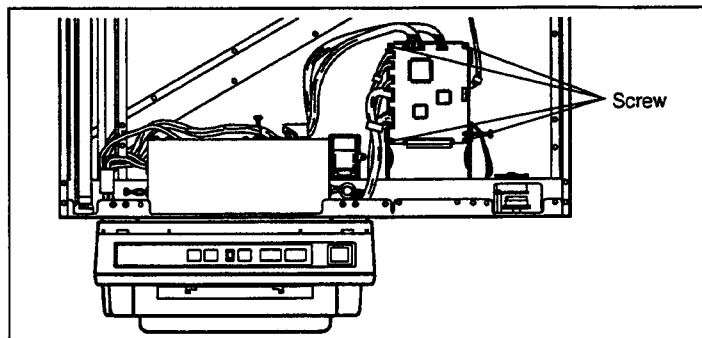

Fig. 5-26
- 4) Remove 4 screws, as shown in Fig. 5-26, and remove the CONTROL Board.